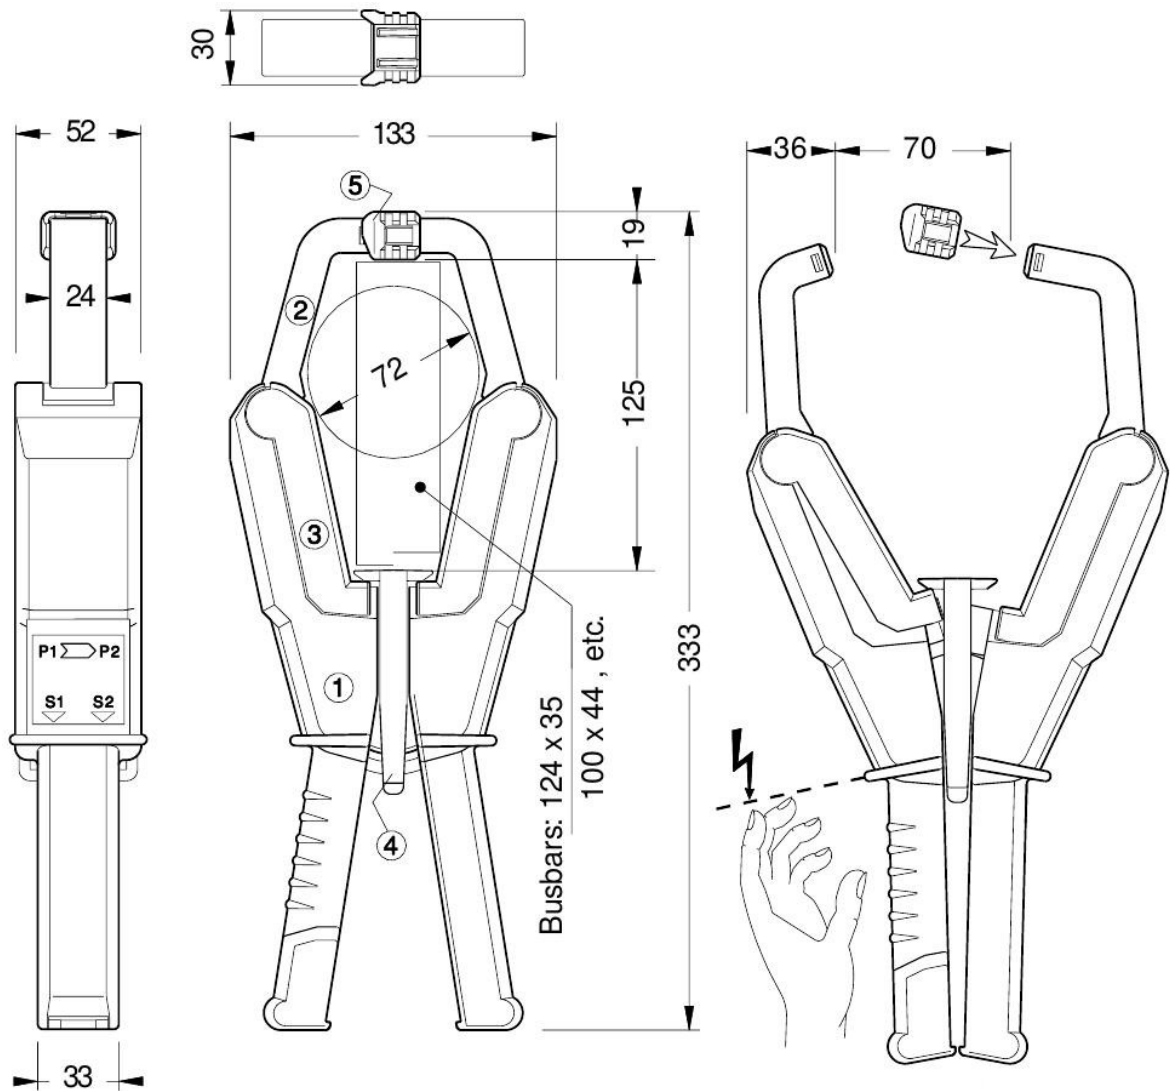

Figure 2.61: Dimensions in mm and protection against electric shock and short-circuit
- Use safety cover 'P' Figure 2.61 [→74] for protection against short-circuits during clamping!